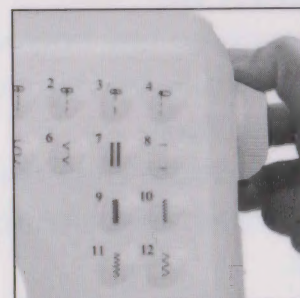

Fig.10
7. When you finish the sewing, turn off the switch, unplug the adapter, turn the hand wheel to raise the needle all the way up, lift the presser foot, and then gently remove the fabric from the sewing machine, and cut the thread with the thread cutter. (Fig.10).